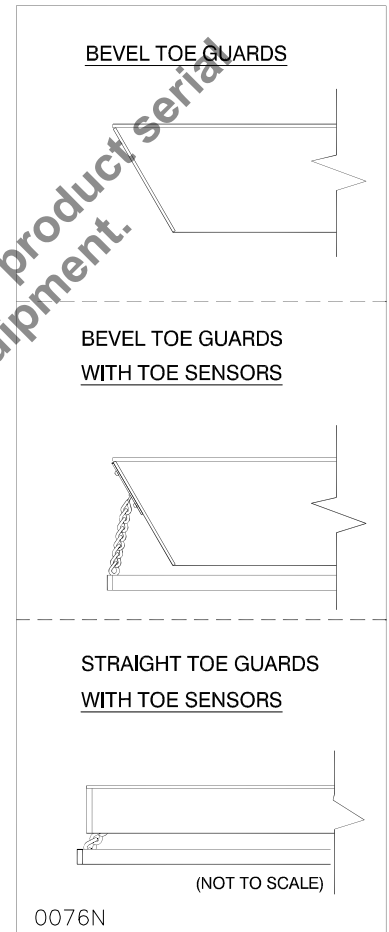

Figure 5: Platform Safety Features
1. Confirm that the table has been built for pit installation with either bevel toe guards or straight toe guards with toe sensors (See "Figure 5: Platform Safety Features" on page 6). If uncertain that your unit is suitable for pit installation contact your Pentalift representative.